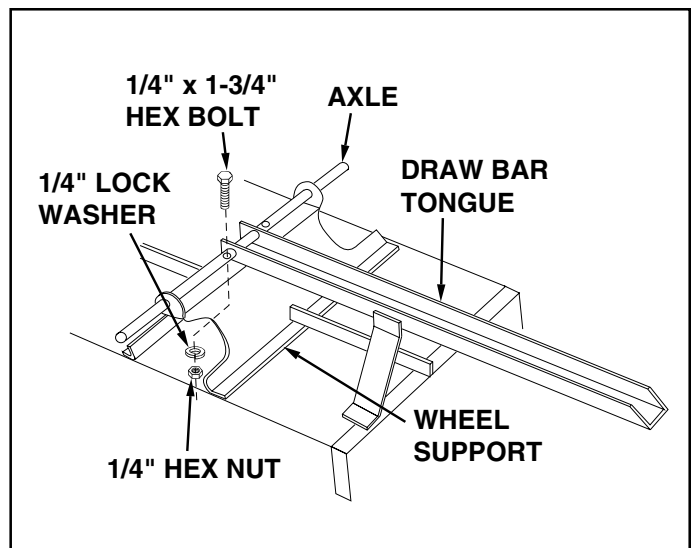

FIGURE 11
13. Lower the cart assembly to rest upside down on its top flanges, with wheel support up. See figure 11.
16. Assemble axle and drawbar tongue to wheel support keeping the open side of tongue facing away from cart. Make sure the latch lock snaps over the top of latch stand bracket. Secure axle to wheel support using two 1/4" x 1-3/4" hex bolts, lock washers and hex nuts. See figure 11.